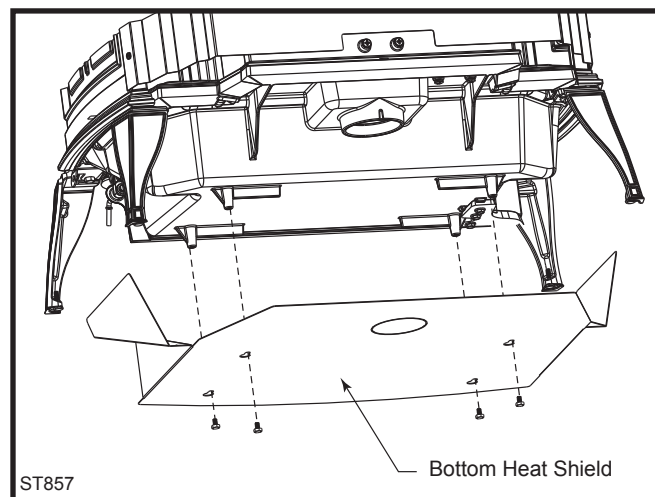

Fig. 22 Attach the optional bottom heat shield.
4. Tighten the four hex head bolts securely after passing all four bolts through the large end of the key-holes and then pulling the shield forward to engage the smaller ends of the keyhole slots. (Fig. 22)